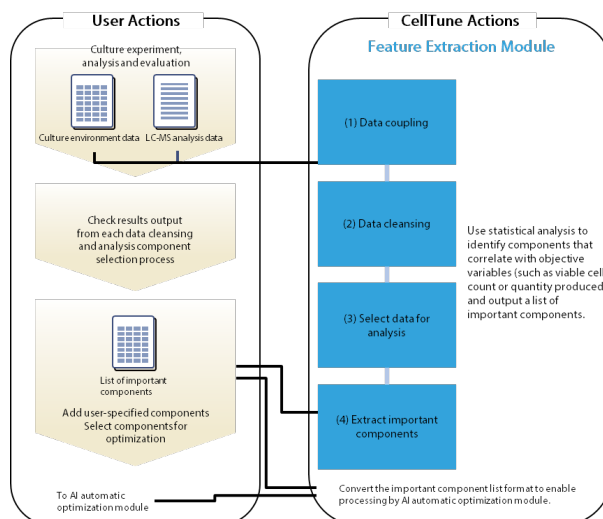
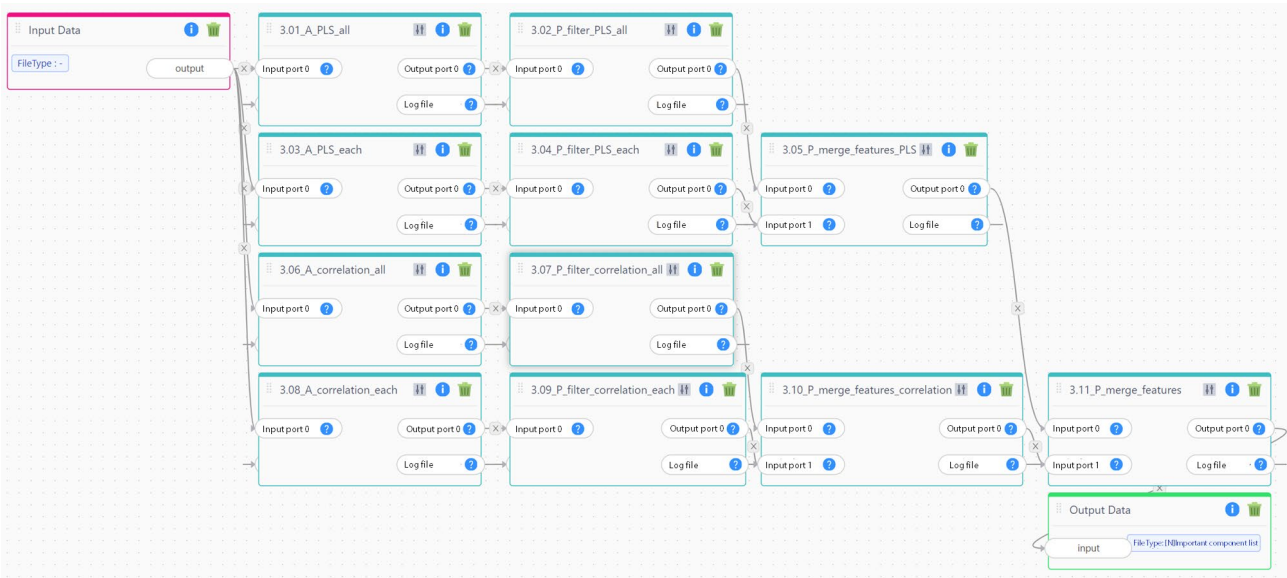

Fig. 1 Process Flow of Feature Selection Module
Fig. 2 Example Analysis Recipe
CellTune has two functional modules: a feature extraction module and an AI optimization module. The feature extraction module identifies parameters for optimization in four steps: (1) dataset coupling, (2) data cleansing, (3) selection of data for analysis, and (4) statistical analysis by partial least squares (PLS) regression and correlation analysis (Fig. 1). In this case study, (1) datasets were coupled by connecting each culture environment measured data with each LC/MS data, based on culture flask ID and culture sampling times. Next, (2) data cleansing was performed to remove noise and impute missing values; then (3) data obtained on day 5 and day 6 of the culture were selected for analysis; and (4) data from each day were subjected to naïve PLS regression. Variable importance for prediction (VIP) scores, which indicate the importance of a particular variable, were calculated, and components of the culture media that correlated with the antibody productivity were extracted. Components with a VIP score larger than 0.8 on both day 5 and day 6 of culture were deemed to be important (Table 2). The individual computational processes used to perform steps (1) through (4) are presented in the CellTune software as pre-linked analysis recipes (Fig. 2), allowing users to obtain results simply by selecting an analysis recipe and setting parameter thresholds.